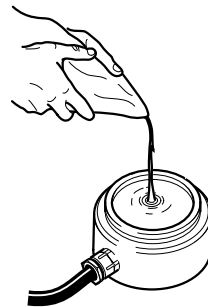

Figure 38 Potting the sensor terminal box
- Maintain Environmental Protection at all times – see Figure 38.